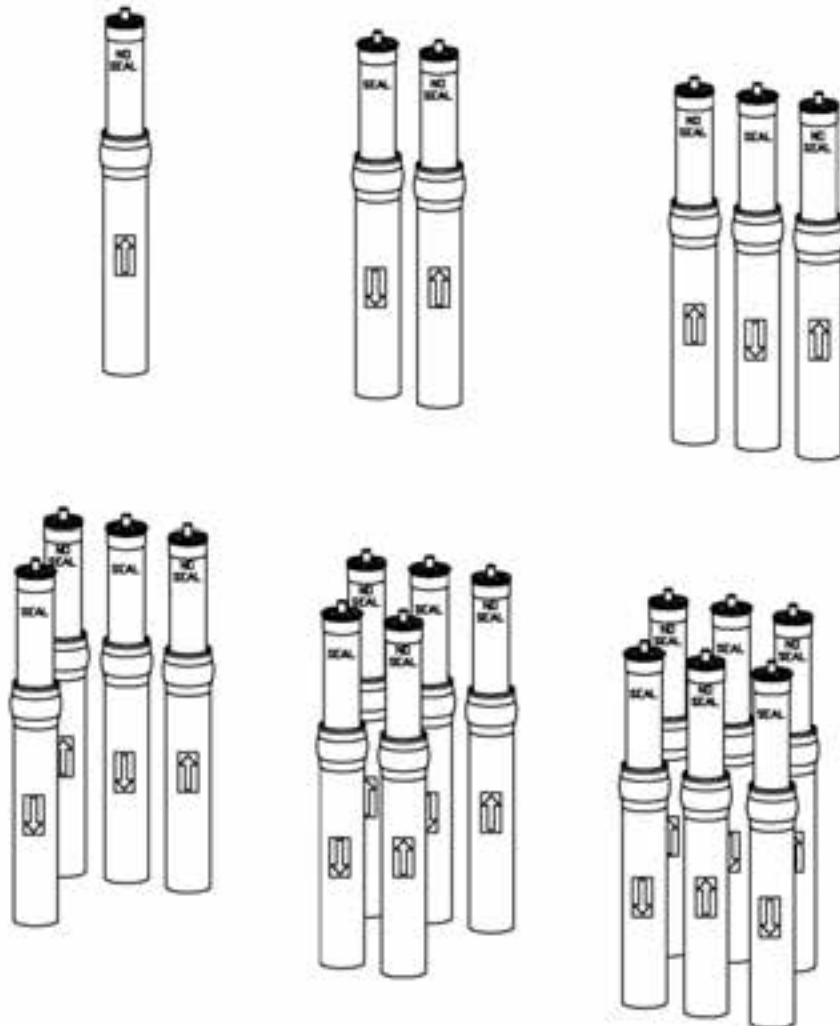

FIGURE 4
3. Install membranes with brine seal location depicted in (Figure 4, Page 26).